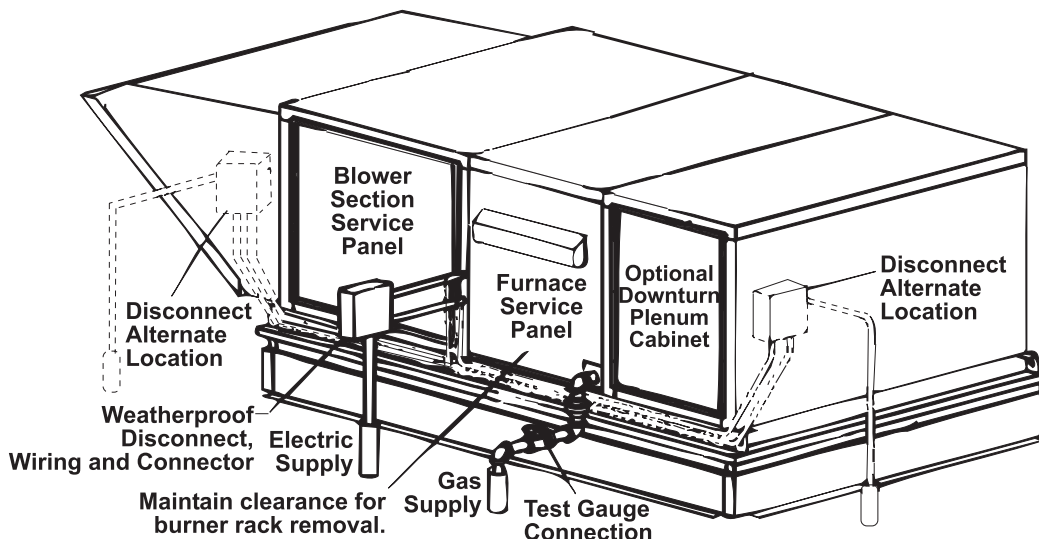

Figure 9. Disconnect Switch Locations
- **Disconnect switch:** A disconnect switch is a required part of this installation. Switches are available as options or parts or may be supplied locally. When ordered as an optional component, the disconnect switch is shipped separately. The disconnect switch may be fusible or non-fusible. When providing or replacing fuses in a fusible disconnect switch, use dual element time delay fuses and size according to 1.25 × maximum total input amps. When installing, ensure that the conduit and switch housing are clear of furnace panels and inspection plates. Allow at least 4 feet (1.2 meters) of service room between the switch and removable panels (see Figure 9). Refer to Table 11 for field-supplied wiring sizes—from disconnect to electrical box—for connection to the motor contactor or starter.